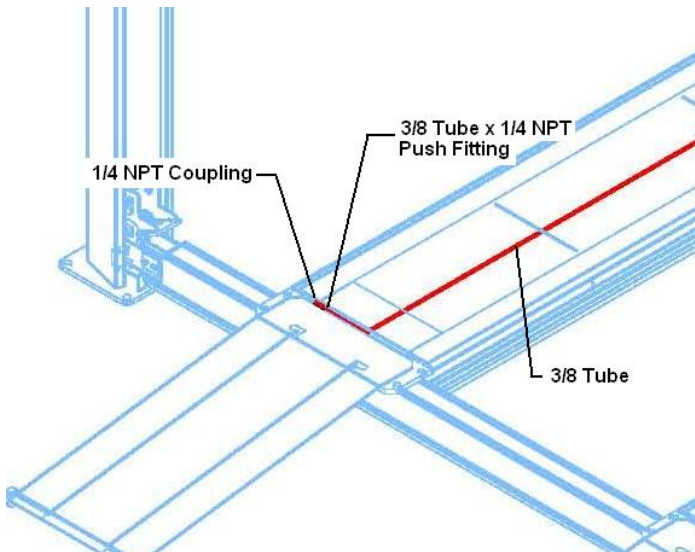

Figure 6
10. Finally, route the 3/8 tube to the rear 1/4 NPT coupling using the 3/8 tube x 1/4 NPT fitting provided, **Fig 6**.